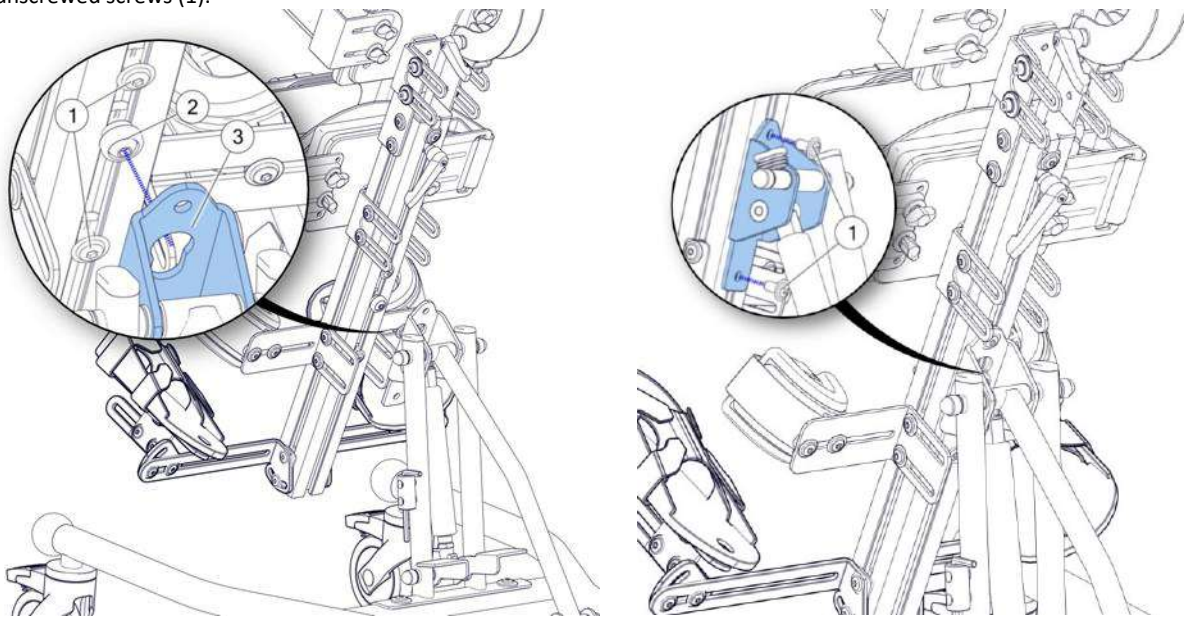

Figure. 4
7.1.2. Installation of the column - Figures 4 and 5